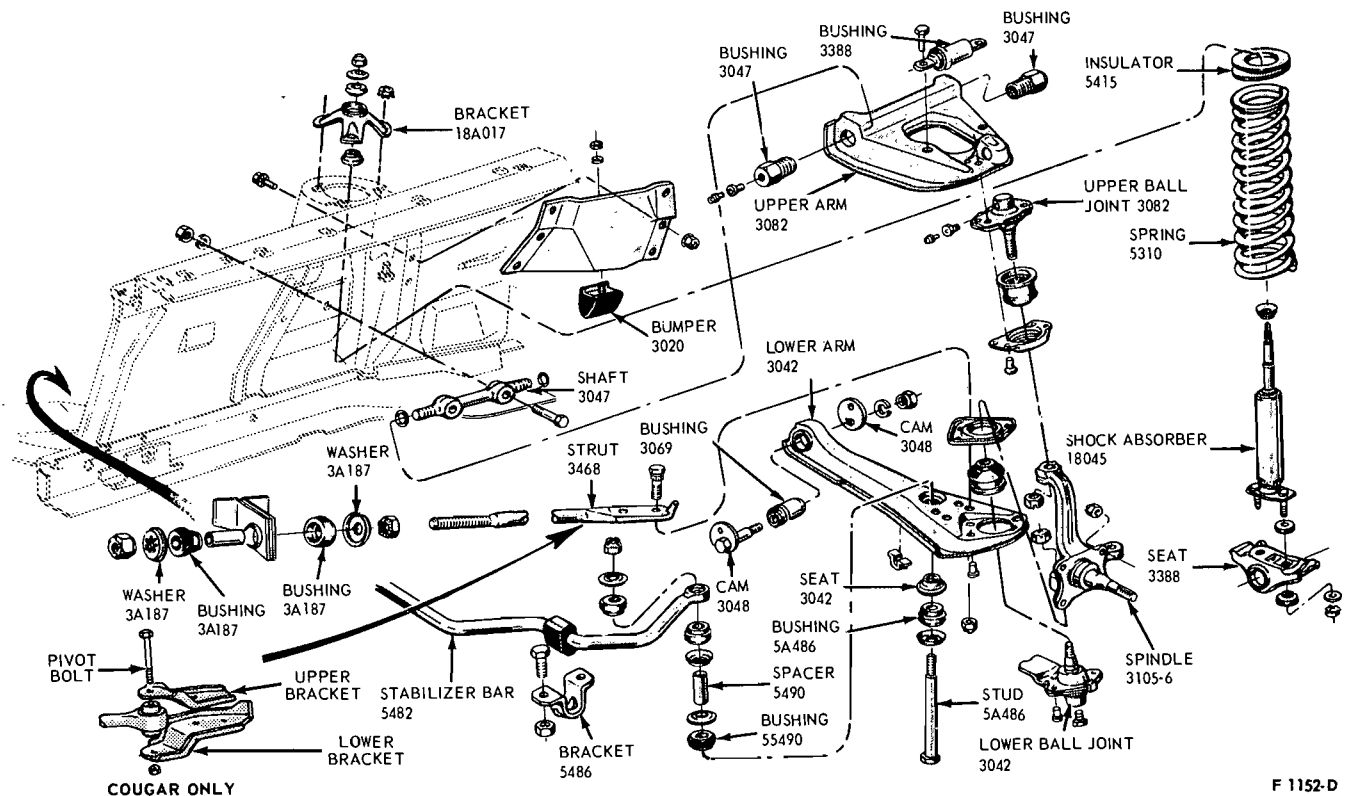

FIG. 11—Front Suspension Assembly
3. Remove the strut-to-bracket forward attaching nut, washer and insulator bushings. See Fig. 11.
2. Remove the nut, washer and bushing from the front of the lower arm strut. See Fig. 11.
4. Remove the strut to lower arm attaching nuts and bolts (Mustang only). On a Cougar, remove the two bolts that attach the articulated strut bracket to the lower arm (Fig. 11).
3. Install the stabilizer link bolt, washers, bushings and spacer. Connect the stabilizer bar to the link. Install the attaching nut and torque to specifications (Fig. 11).
4. Position the strut to the lower arm. Install the attaching bolts and nuts, and torque to specification (Mustang only). On a Cougar, position the articulated strut bracket to the lower arm and install the attaching bolts (Fig. 11). Torque the bolts to specification.
4. Remove the stabilizer bar link attaching nut and remove the washers, bushings, spacer, and link bolt (Fig. 11).
7. Position the ball joint remover tool between the upper and lower ball joint studs in the reverse position (upside down) from that shown in Fig. 11. **The tool should seat firmly against the ends of both studs and not against the stud nuts.**
1. Position the spindle on the lower ball joint stud and install the stud nut (Fig. 11).